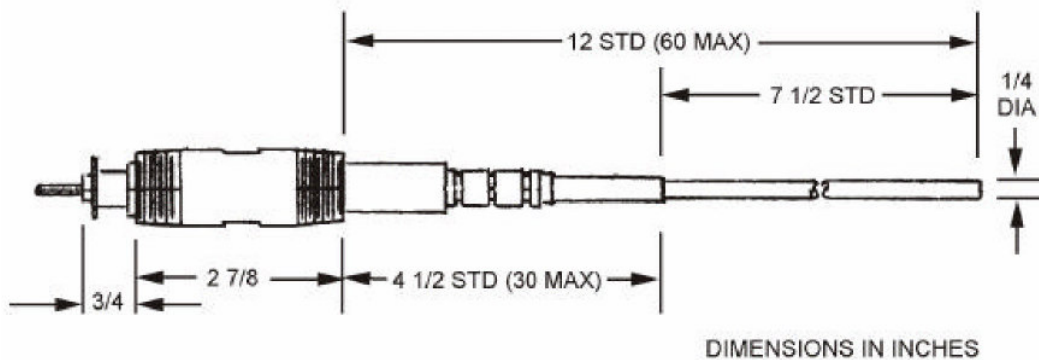
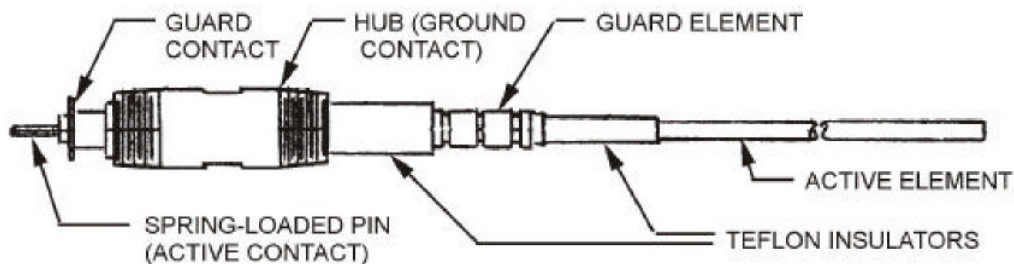

Figure 1-2
Figure 1-3
- Figure 1-2. Standard Probe, Dimensional Drawing
- Figure 1-3. Standard Probe, Descriptive Drawing
AR Sensor Probes are the probes commonly used with the AR-200. (Refer to Figure 1-2 for a dimensional drawing of the standard L843 Probe.) These probes have three stainless steel electrical contacts - active, guard and ground - which are separated from each other by Teflon insulators. See Figure 1-3 for location of these contacts on the probe. Simply threading the probe into the electronic housing makes electrical contact between the probe elements and the electronic unit. The "active" element contacts the AR-200 circuit board by means of the spring-loaded pin projecting from the top of the probe. The guard contact is made by means of a 1/2 inch diameter spring which projects from the bottom of the AR-200 bottom circuit board. This spring fits concentrically around the spring-loaded pin and touches the guard contact on the probe. The hub of the probe serves as the ground element. It contacts both the electronic housing and the metal storage vessel through its threaded connections with them.
Refer to Figure 1-2.
Carefully remove each package's contents and check each item against the packing list. Inspect each item for shipping damage. In particular, check the spring-loaded pin, located on the threaded hub end of the probe (see Figure 1-3). This pin provides the necessary electrical connection from the AP-2000 bottom printed circuit board, to the active element of the probe. Make sure this pin is not missing, bent, jammed, or otherwise damaged.